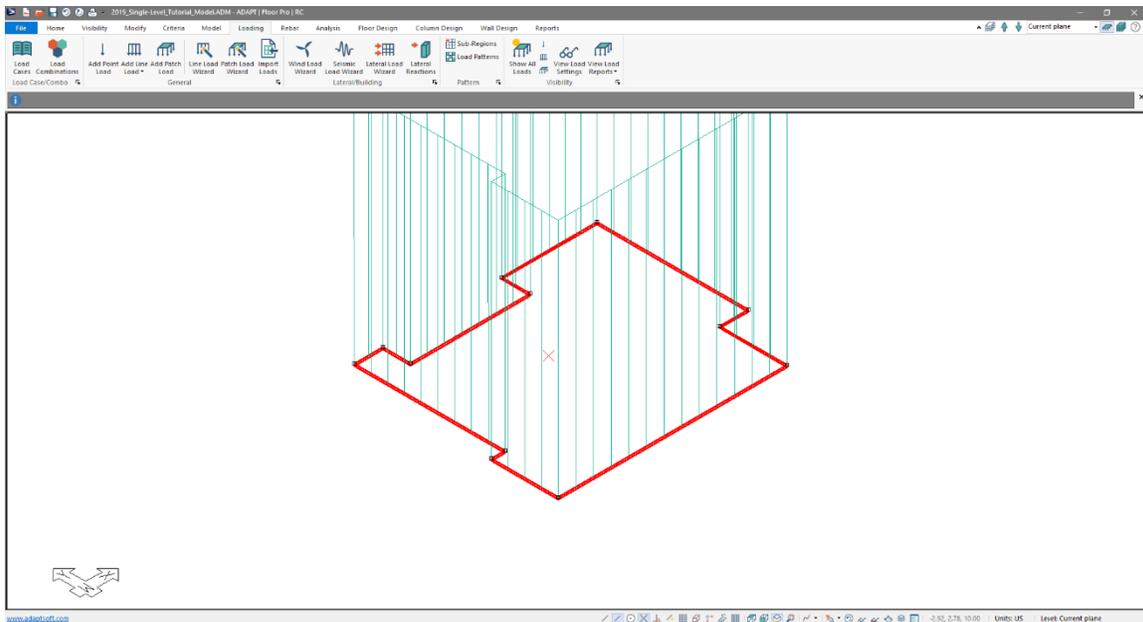

Figure 4-4
- The user will now see green lines representing the projection of the load as shown in **FIGURE 4-4**. At this point we have successfully applied a 25psf area load to the slab region.